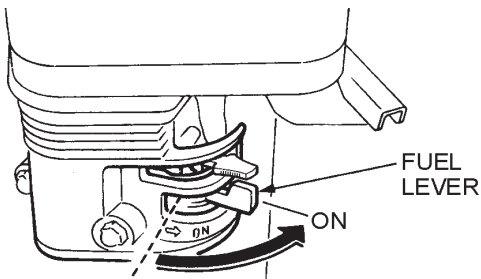

Figure 13. Engine Fuel Valve Lever (ON Position)
2. Place the engine *fuel valve lever* (Figure 13) to the "ON" position.